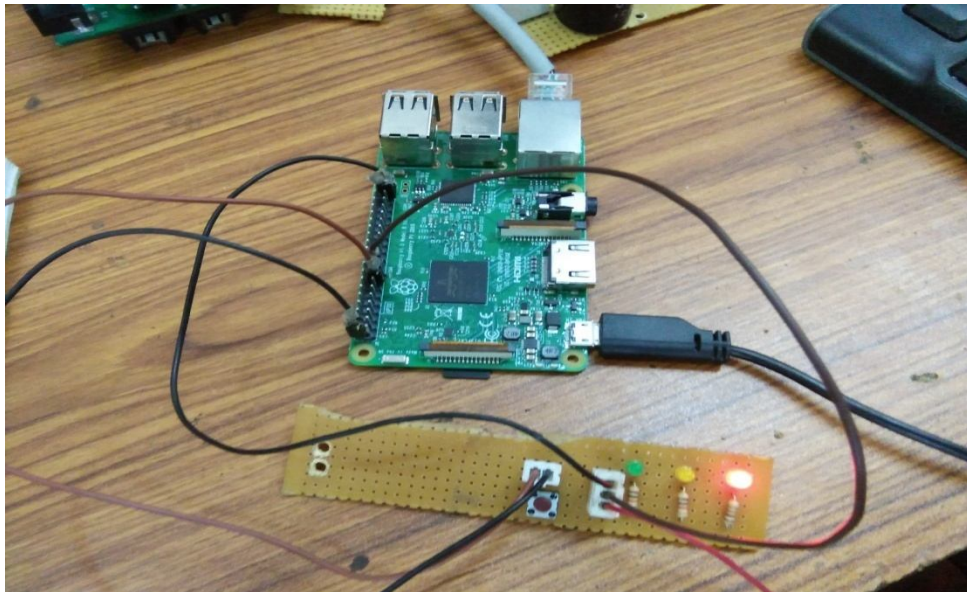

Fig. 2
- Make the switch & LED connection as shown the fig.2